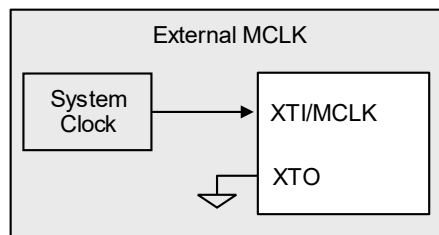

Figure 4-10. System Clocking—External MCLK Mode
- Externally sourced through the XTAL/MCLK input pin (see Fig. 4-10)
- PLL reference clock is provided through the XTAL/MCLK input pin (see Fig. 4-10), then use internal PLL to convert into MCLK_INT